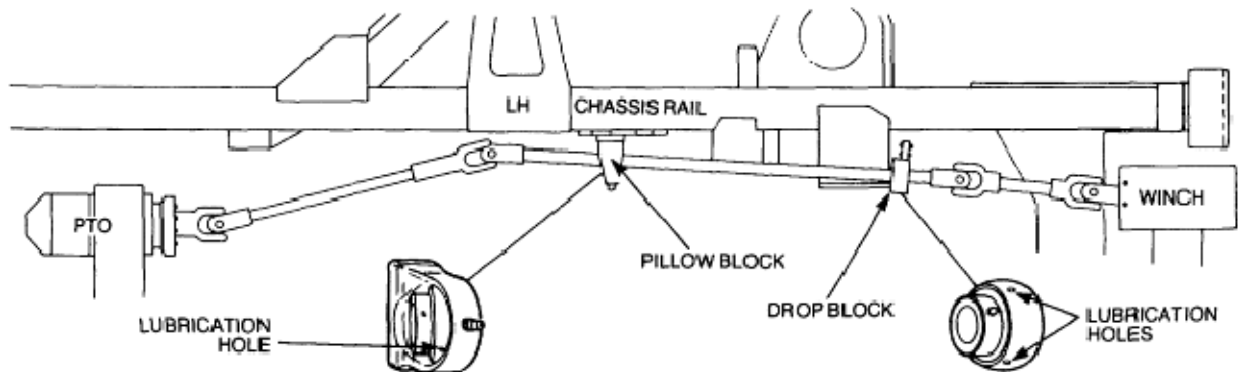

Figure 201 Winch Driveline
- b. Remove the four bolts and lock-washers securing the shaft flange to the PTO (Figure 201). Discard the lock-washers.
- d. Remove the three bolts and lock-washers securing the drop block to the chassis bracket (Figure 201). Discard the lock-washers.
- a. Secure the bearing housing in a vice and insert the new bearing into the housing ensuring that the two lubrication holes in the bearing outer align with the lubrication groove in the housing (Figure 201).